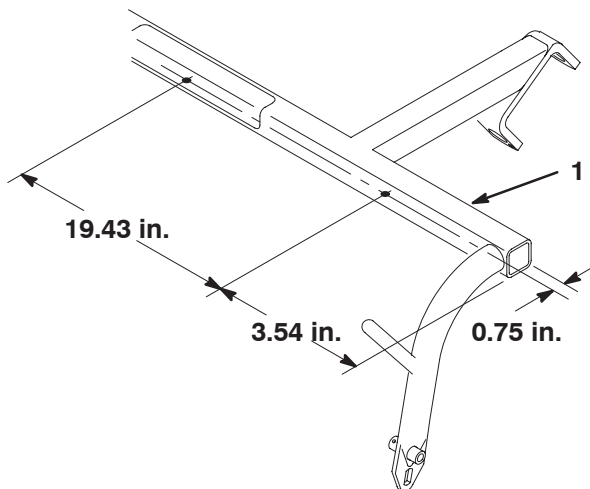

Figure 1
1. Using the dimensions shown in Figure 1, locate, mark, and drill two 0.221 in. diameter holes in the underside of each pull frame cross tube.